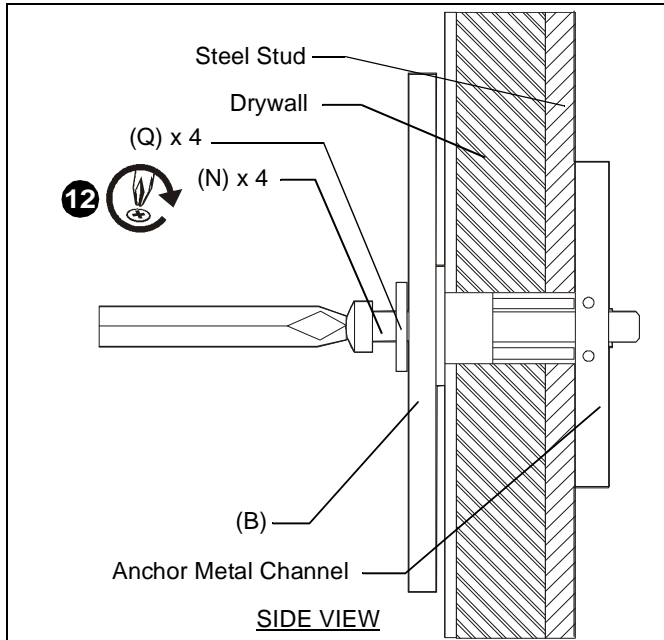

Figure 9
11. Place wall bracket over anchors and align mounting holes in display mount with holes in anchors. (See Figure 9)
12. Insert 1/4-20 x 1-3/4" Phillips pan head screws (N) through 1/4" washer (Q), corresponding mounting hole on wall bracket and into anchor (P) and tighten until flush against mount. DO NOT overtighten! (See Figure 9)